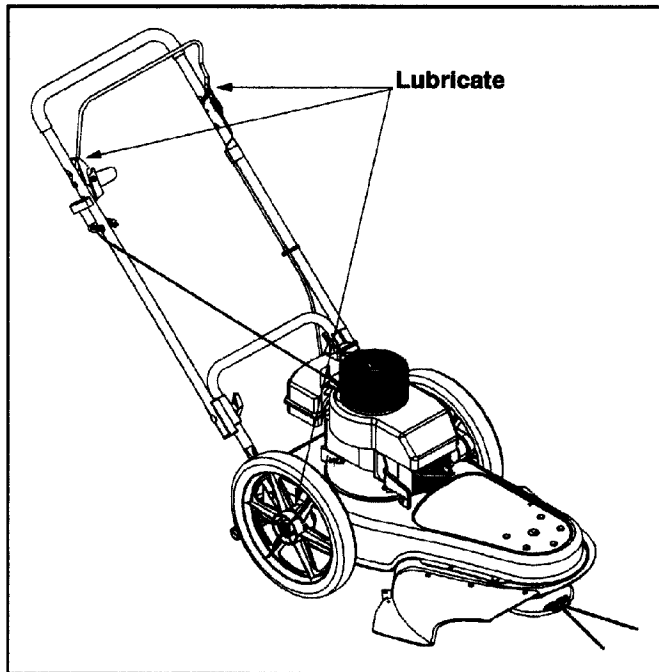

Figure 7
**Control Lever:** Lubricate the pivot points on the control lever at least once a season with light oil. See Figure 7.
**Wheels:** Lubricate the wheels at least once a season with light oil. See Figure 7.